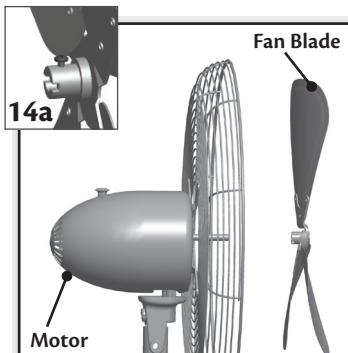

Figure 14
4. Loosen the screw on the back of the blade assembly. Figure 14a. Slide the blade assembly onto the motor shaft. Figure 14.